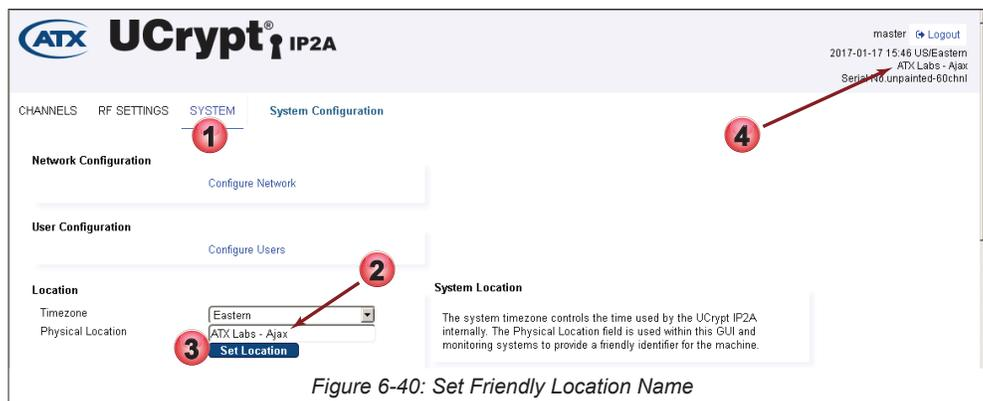

Figure 6-40: Set Friendly Location Name
1. Click the **System** tab if it isn't already selected, Figure 6-40.